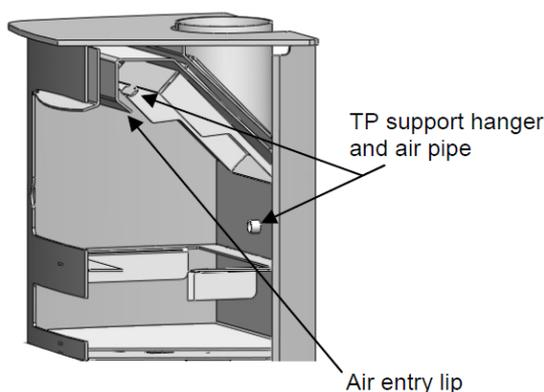

Fig. 4. Throat Plate support and Secondary air pipe
2. Raise the throat plate assembly vertically out of the landing slots ensuring the front edge remains behind the front edge of the air wash lip, see fig 4.